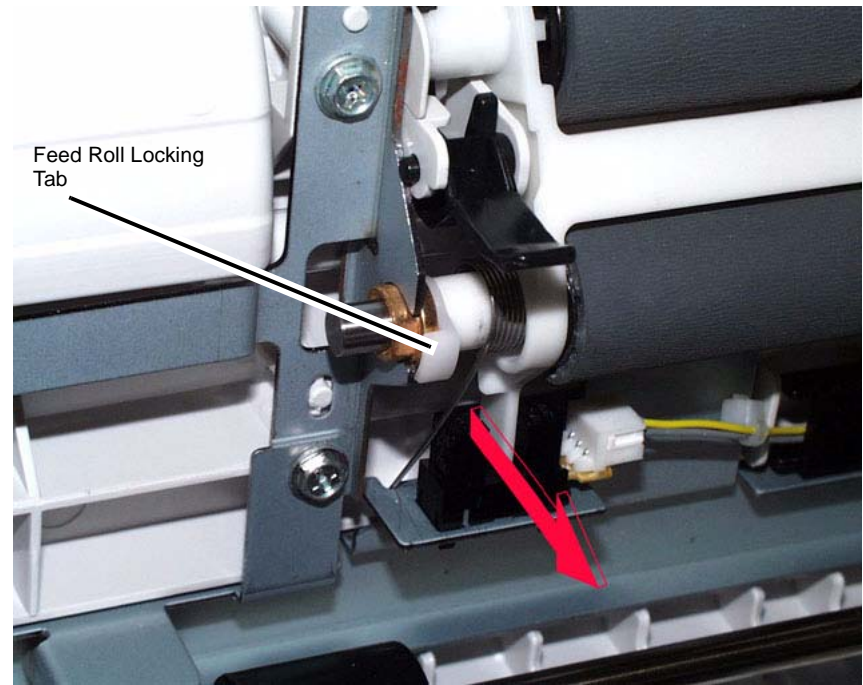

Figure 5 Removing the Feed Roll Locking Tab
7. To remove the Feed Roll, remove the locking tab. (Figure 5)